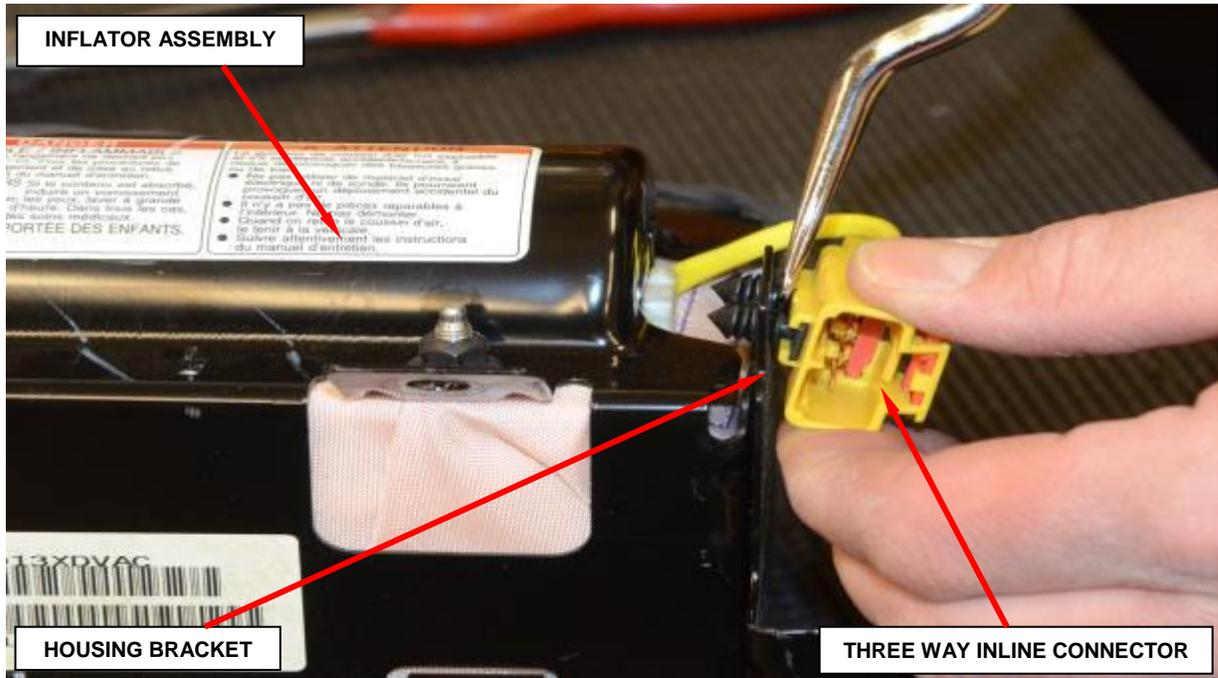

Figure 20 – Yellow Three Way Connector
- d. Remove the yellow three way inline connector from the housing bracket (Figure 20).
- n. Connect the yellow three way inline connector to the mounting points on the housing (Figure 20).